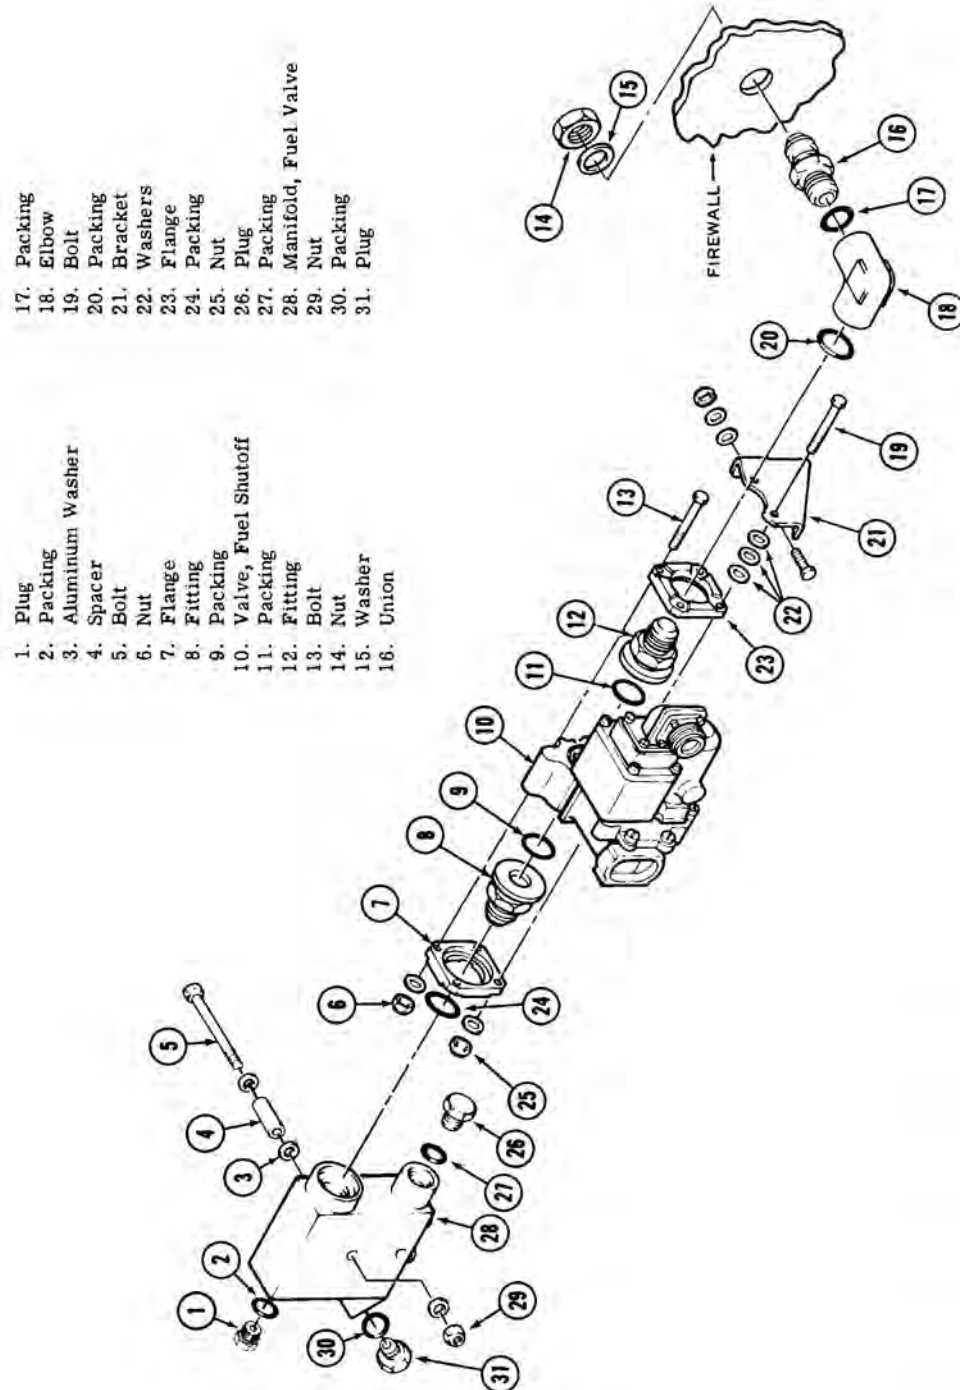

Figure 28-13. Fuel shutoff valve and fuel valve manifold
28.27.1.2 Provide suitable container to catch fuel. Loosen clamp and move shroud away from firewall, disconnect fuel line from union (16, Figure 28-13). Remove nut (14) and washer (15) from union.